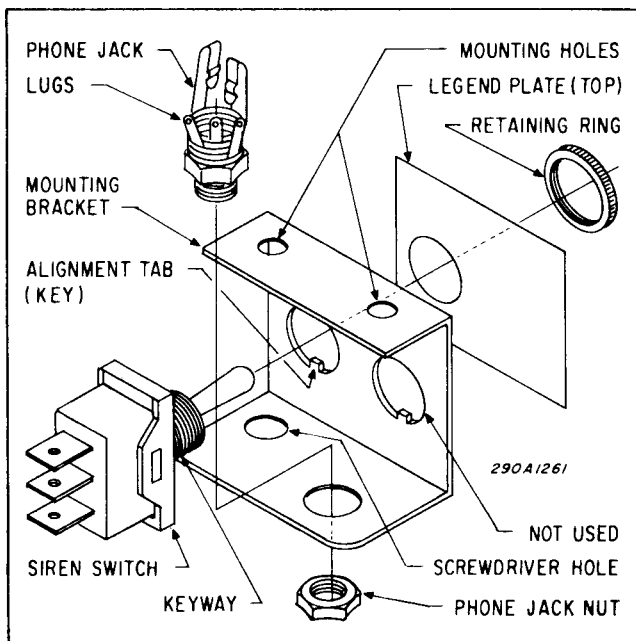
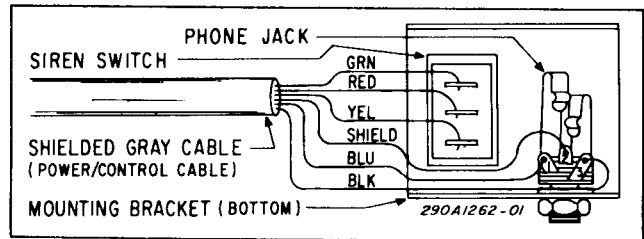

Figure 3-1. Toggle Switch and Phone Jack Installation.
Figure 3-2. N Model Electrical Connections.
A. Peel off the protective paper backing from the legend plate. Carefully align the hole in the legend plate with the right hand hole in the legend plate (as viewed from the front), and apply the legend plate to the bracket, as indicated in figure 3-1. Press the legend plate firmly against the bracket to ensure that the plate adheres firmly to the bracket.
C. See figure 3-1. Align the keyway on the switch with the alignment tab in the mounting bracket hole and install the switch in the hole in the mounting bracket. Place the retaining nut on the switch and tighten the nut to hold the switch on the mounting bracket.
D. Install the phone jack in the large hole in the bottom bend of the mounting bracket, as shown in figure 3-1. Position the phone jack so that the three lugs are toward the rear of the bracket, as shown in figure 3-2.
See figure 3-2. The power/control cable assembly contains a five conductor shielded gray cable. Each of the wires in the gray cable is terminated by a factory-installed solderless terminal. Slide these terminals on the lugs on the rear of the SIREN switch, as indicated in figure 3-2.
See figure 3-2. Connect the blue wire in the shielded gray cable to lug 1 on the microphone jack. Connect the shield to lug 2 and the black wire to lug 3.